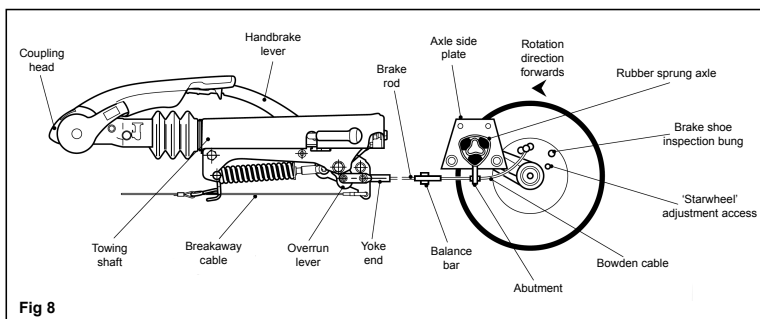
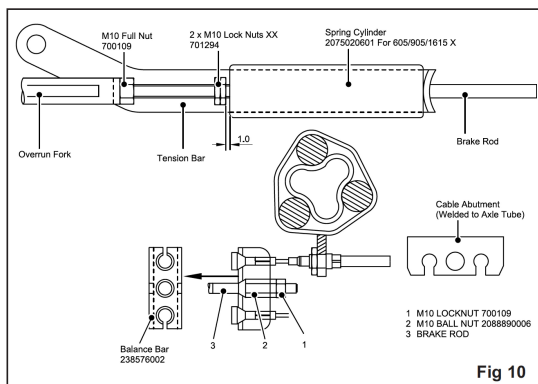

Fig 8
Fig 10
- Ensure the towing shaft with couplingheads is pulled fully forward (Fig. 8).
- Release the handbrake to the fully off position. If the handbrake will not go down the whole way because of the fairing or any other obstruction; then the fairing must be cut away and/or the obstruction removed to achieve this desired position. It will not be possible to set up the braking system properly when the handbrake is not in the fully off position (Fig. 8).
- Remove the inner plastic bung from the backplate to expose the 'starwheel' adjuster access (Figs. 8 & 9).
is pulled out it should extend between 5 and 8 mm (Fig. 8). (On tandem axles a double abutment is fitted to the front axle only).
- Ensure the balance bar (compensation) is being pulled evenly. This bar (double on tandem axles) should always be paralleled with the axle tube when pulled (Figs. 8 & 10). Adjust M8 lock and ball nuts, if necessary, to achieve correct parallel position (Fig. 10).
- Over adjustment to the long ball nut (Fig 10), could induce movement of the inner brake cable, reducing the effective clearance of the brake shoes. If the overrun lever will not make contact, it is possible the two lock nuts, forward of the spring cylinder, are incorrectly adjusted. Loosen the nuts and adjust the brake rod as above (Figs 8 & 10).
- Adjust the two locking nuts, forward of the spring cylinder (Fig. 10), (on some chassis a single Nyloc nut is used) to
(See Fig. 10). If the overrun assembly is fitted with a gas strut handbrake then no spring cylinder is fitted - therefore ignore this paragraph).